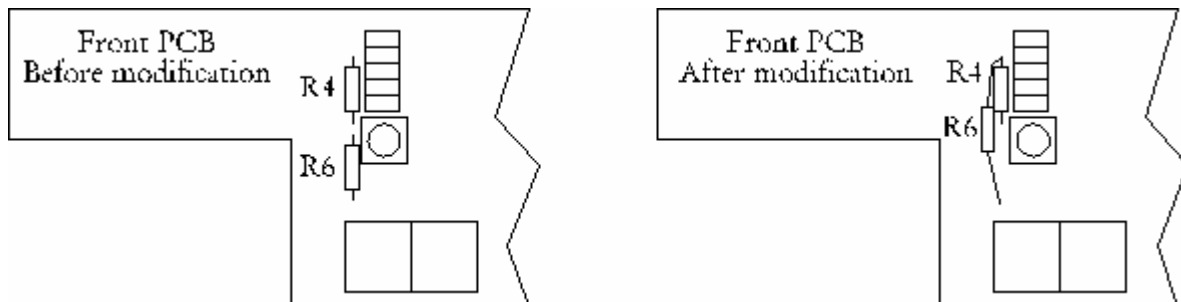

Fig. 1: Location of R4 and R6.
5. Remove the resistor called R6. Take a new 680 ohm resistor and solder one pin to the top of R4. Solder the other pin into the lower hole of R6. See fig. 1